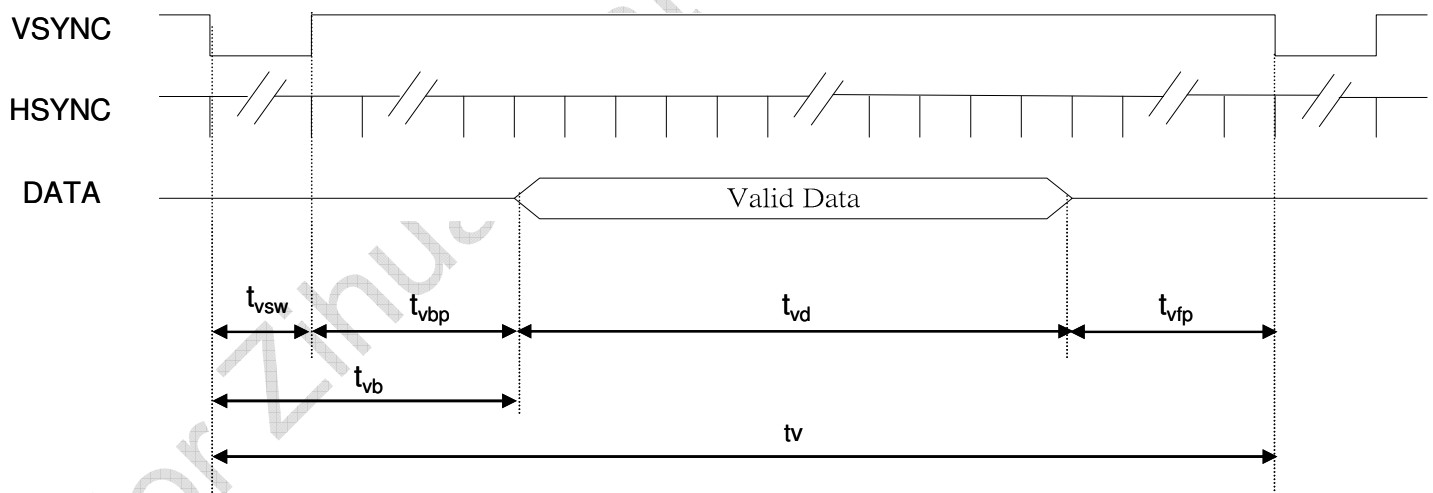

Fig.3 YUV Input Vertical Timing Chart
5.2 YUV timing (Refer to Fig.3 Fig.4)